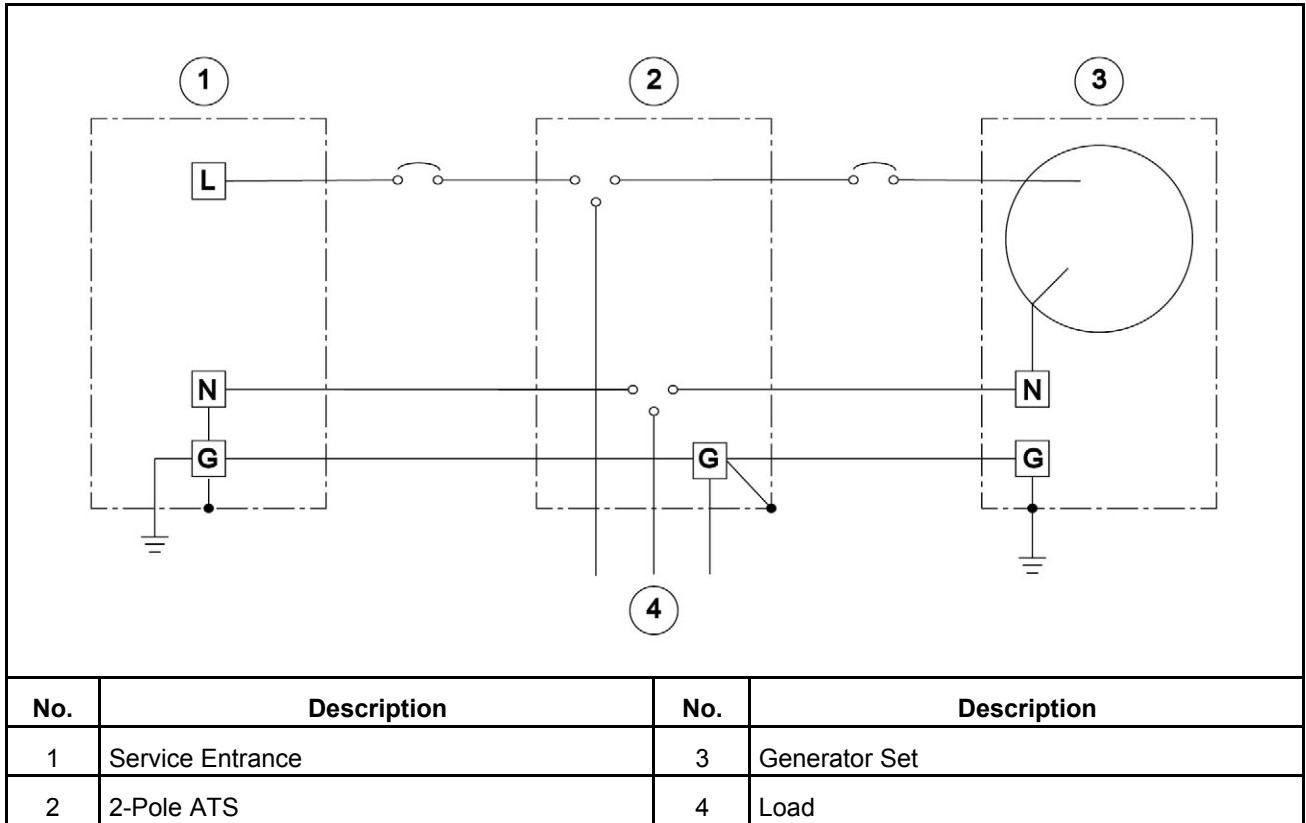

FIGURE 18. TYPICAL SYSTEM - ONE-PHASE, THREE WIRE UTILITY, TWO-POLE ATS
**Figure 18**, **Figure 19** and **Figure 20** illustrate typical system grounding for a 2-pole, 3-pole, and 4-pole Automatic Transfer Switch (ATS). In the 2-pole and 3-pole ATS, note that the generator neutral is connected to the ATS and is NOT bonded to ground at the generator. In the 4-pole ATS system, a grounding electrode conductor and a bonding jumper are used to connect the generator neutral to ground.